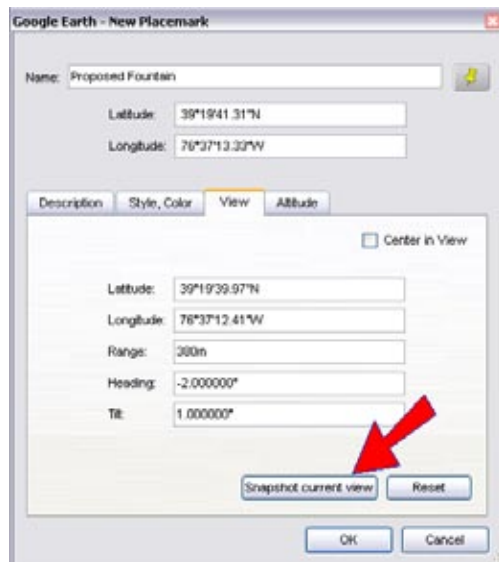

Figure 13-47
5. On the View tab of the New Placemark window, click “Snapshot current view” (Figure 13-47). Then click OK.